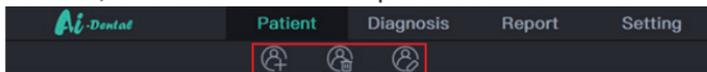

Figure 18
(1) As shown in figure 18 patient interface, from left to right are buttons to add, delete and modify patients. Click the button of "Add patient", enter information, and click OK to add a patient. If the patient information needs to be modified, click the button of "Modify patient" to make modification of patient information, click OK to complete the modification. If the patient information needs to be deleted, click the button of "Delete patient", wait for 3 seconds, and click OK to complete deletion.